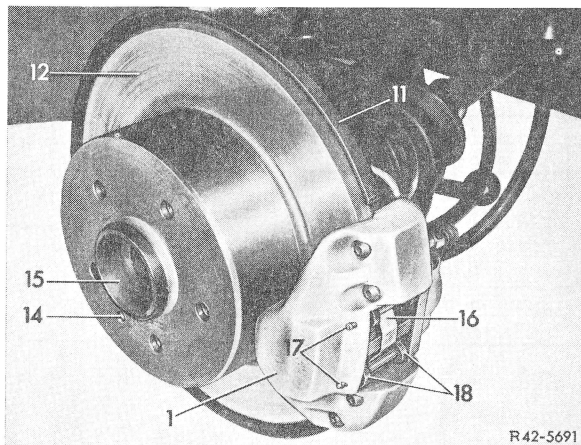

Fig. 3
Loosen stuck brake discs from seat of rear axle shaft flange by applying light blows with a plastic hammer. Make sure that parking brake is completely released (Fig. 3).
5 Position brake disc (12) on rear axle shaft flange. Make sure that set pin (14) is entering correctly into brake disc (Fig. 3, 7, 8 and 9).